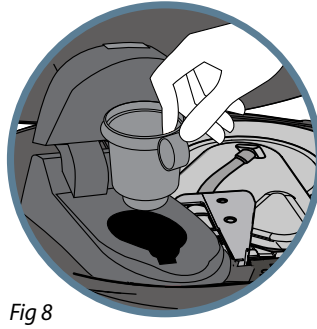

Fig 8
- Remove the brown K-Cup® pod holder (Fig 8) and machine wash (top rack only).